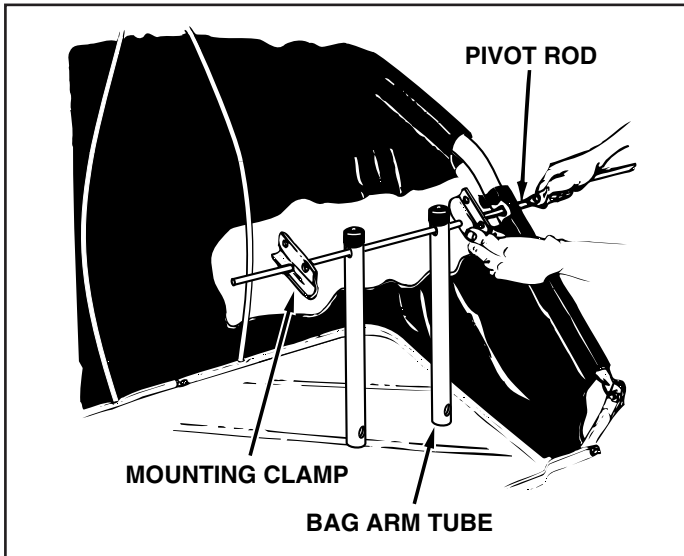

FIGURE 18
13. Slide the hopper bag pivot rod through the side of an upper hopper tube where the hole was pierced. Assemble onto the rod a mounting clamp, two bag arm tubes and another mounting clamp as shown in figure 18. Push the rod on through the upper hopper tube on the opposite side of the bag.